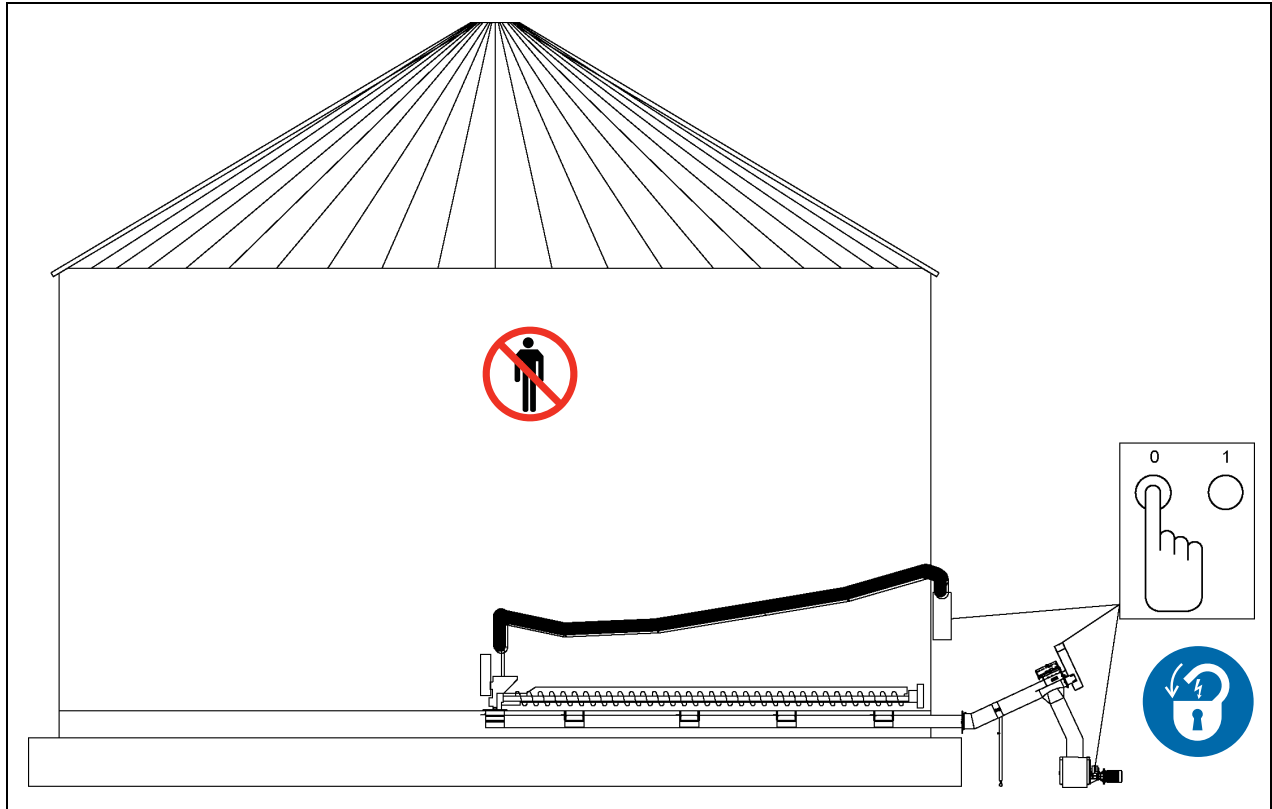

Figure 6P
16. Shut down all systems and lock out. (See Figure 6P.)